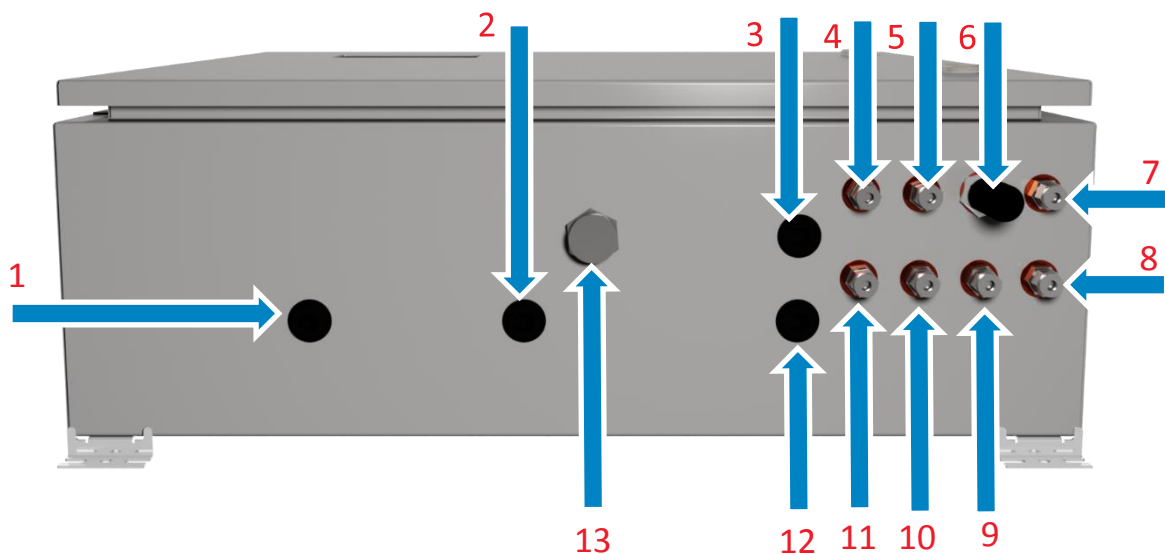

Figure 3 - BIOGAS 3000 customer connections
- Compression fittings – found on the bulkheads on the enclosure base (see annotations 4, 5, and 7-11 on Figure 3 - BIOGAS 3000 customer connections)
There is an enclosure breather fitted to the BIOGAS 3000 situated at the base of the enclosure (see annotation 13 on Figure 3 - BIOGAS 3000 customer connections). It is the user's responsibility to ensure that there is a free circulation of air around the cabinet.
The installation will require the operator to connect a mains cable, output cable, drain and gas pipes to the equipment. Figure 3 - BIOGAS 3000 customer connections identifies the available connection points on the BIOGAS 3000:
- The sample tube should be connected to the bulkhead connectors labelled 'SAMPLE GAS 1', 'SAMPLE GAS 2', 'SAMPLE GAS 3', and 'SAMPLE GAS 4' where applicable – see annotations 4, 5, 10, and 11 on Figure 3 - BIOGAS 3000 customer connections.
- The gas exhaust line should be connected to the bulkhead connector labelled 'PROCESS RETURN' – see annotation 7 on Figure 3 - BIOGAS 3000 customer connections.
- The sample tube should be connected to the bulkhead connector labelled 'AIR IN' – see annotations 6 on Figure 3 - BIOGAS 3000 customer connections.
- The sample tube should be connected to the bulkhead connector labelled 'VENT TO ATMOSPHERE' – see annotation 9 on Figure 3 - BIOGAS 3000 customer connections.
- The drain line should be connected to the bulkhead connector labelled 'DRAIN' – see annotation 8 on Figure 3 - BIOGAS 3000 customer connections.